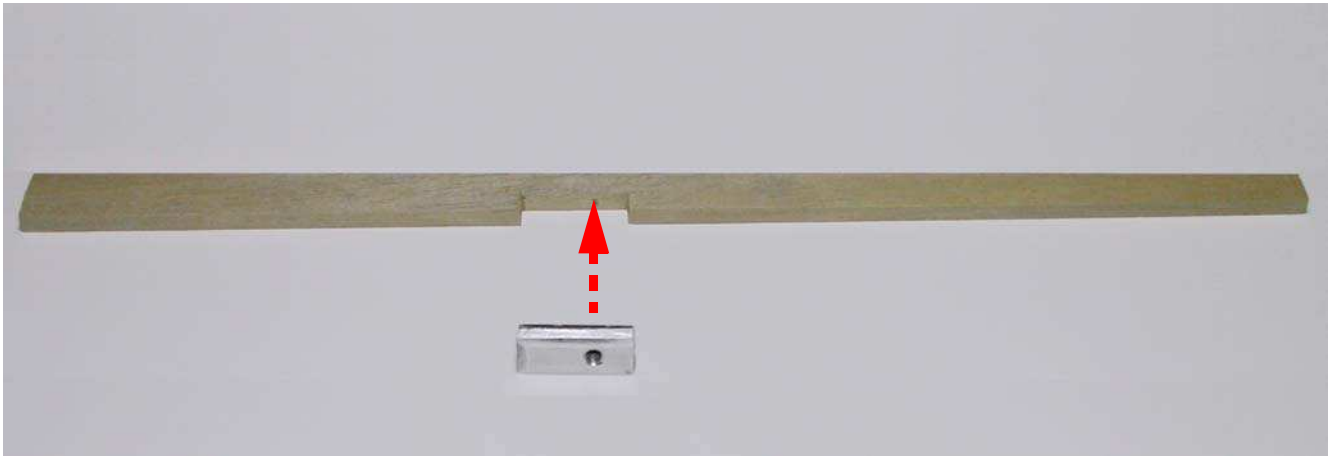

Fig.68: Glue the tow hook support.
- Using some cyano, glue the tow hook support “SGTR” to the shaped strip “LCOR” as shown in figure 68 (notice the position of the hole faced to the thinner side);